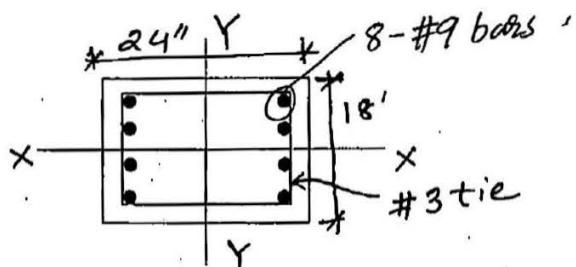

Figure: 1
- (d) Compute frictional loss of the post-tensioned beam having three tendons (as shown in Figure 1) at location A-A and at anchor end. Given : jacking stress = 200 ksi, μ (friction co-efficient) = 0.15 and k (Wobble co-efficient) = 0.0001. (12)